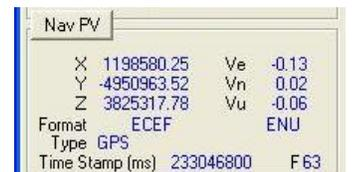

Figure 5. Nav PV Section
B. ax, ay, az - These sensors correspond to the displays the ax, ay, and az accelerometer sensors (-1000 on the z axis is equivalent to one (1) G of gravity).
4.5 Nav PV - The NAV PV section displays the navigation position and velocity as determined by the MIDG Series INS/GPS. This is the Kalman filtered output which is derived from a combination of sensor readings and GPS information (Figure 5). The message ID for the Nav PV message is "12." Each piece of information is detailed below.